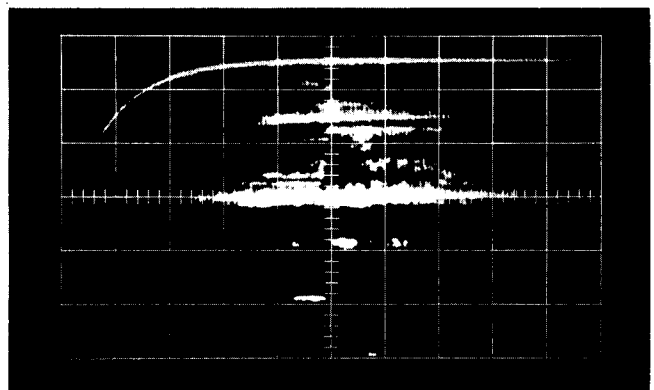

Fig. 2-15. Background deterioration as ENHANCE LEVEL is increased.
10. Increase the sweep rate and continue adjusting the ENHANCE LEVEL control to the position where background deterioration (light spots in the background) begins to splatter the storage screen (Fig. 2-15).
Example: Assume a peak-to-peak vertical deflection of 4.6 divisions (see Fig. 2-15) using a 10× attenuator probe and a Volts/Cm switch setting of .5.